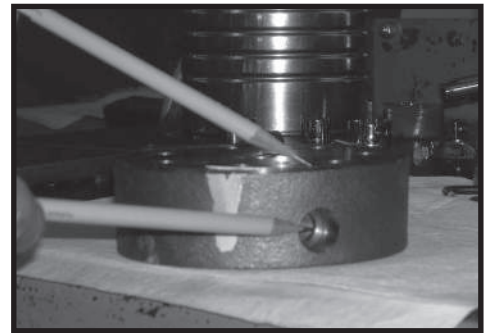

Figure 9
6. Thoroughly wash end cover (2) in proper solvent and blow dry. Be sure the end cover valve apertures, including the internal orifice plug, are free of contamination. Inspect end cover for cracks and the bolt head recesses for good bolt head sealing surfaces. Replace end cover as necessary. SEE FIGURE 9.
**NOTE: A polished pattern (not scratches) on the cover from rotation of the commutator (5) is normal. Discoloration would indicate excess fluid temperature, thermal shock, or excess speed and require system investigation for cause and close inspection of end cover, commutator, manifold, and rotor set.**